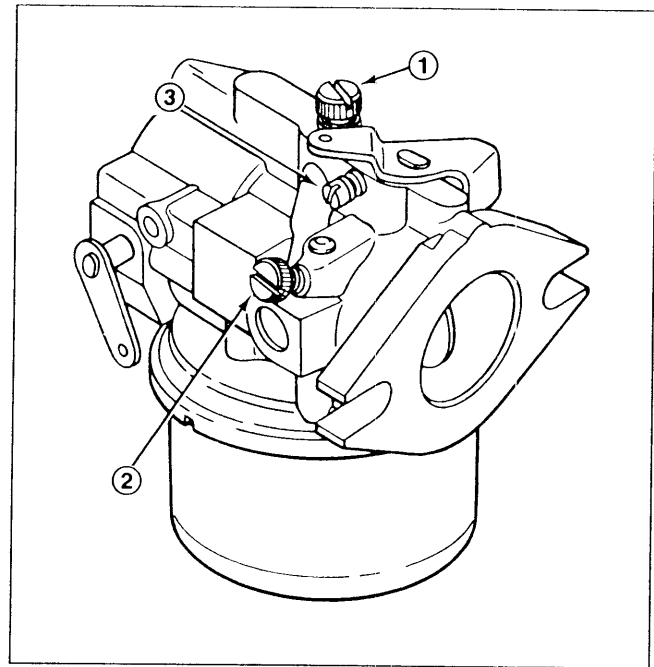

Figure 24
1. Main fuel screw (Fig. 24) — Close screw by gently rotating it clockwise.
3. Idle fuel adjusting screw (Fig. 24) — Close screw by gently rotating it clockwise. Open screw by rotating it 1-1/4 turns counterclockwise.
7. Idle Speed Setting (Fig. 24) — Run engine at half-throttle for 5-10 minutes to warm up. Move throttle to SLOW and set engine speed to 1200 RPM by turning the idle speed adjusting screw clockwise or counterclockwise.